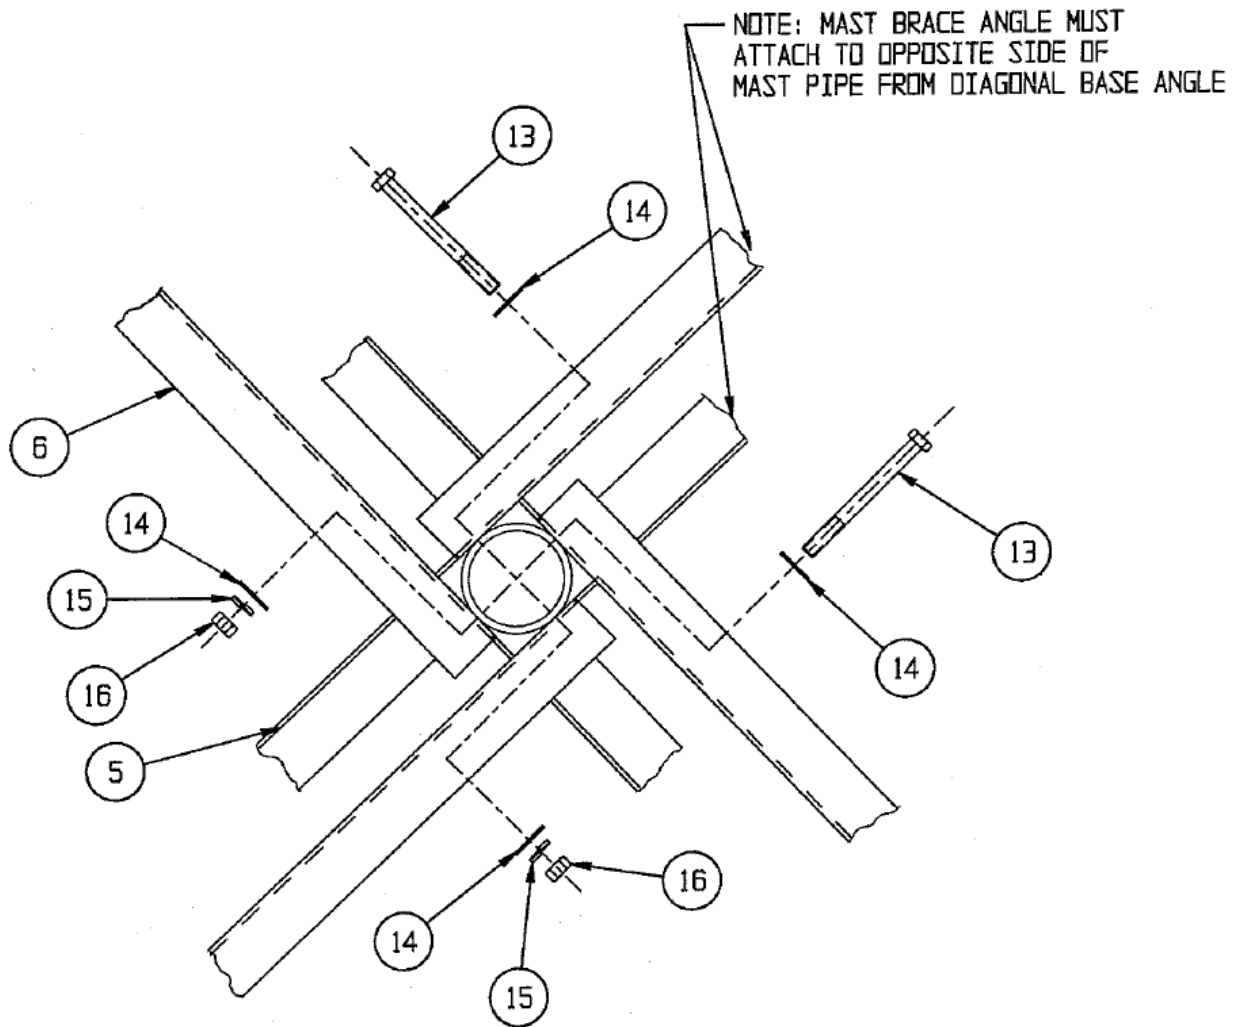

Figure 5
- STEP 6:** Attach the (4) mast brace angles (item 6) to the mast pipe with (2) 1/2" X 5.00" bolts, (4) flatwashers, (2) lockwashers, and (2) hex nuts (items 13, 14, 15, & 16). Each brace must attach to the side of the mast pipe opposite its diagonal brace angle as shown in Figure 5. Snug only.